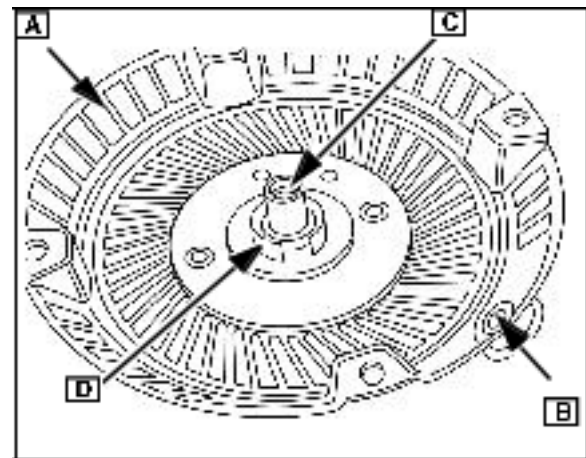

Fig. 24
Inspect starter housing (A) for wear or burrs at starter housing eyelet (B), center pivot post (C), and at inner spring retainer ([D] Fig. 24). Replace damaged or worn components.